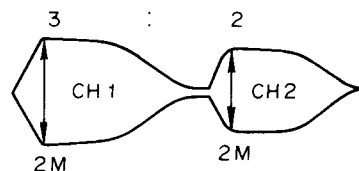

Figure 94.
2. Observe the output of TP-307 on oscilloscope (TP-702, external trigger). Adjust R344 so that the output ratio of channel 1 against channel 2 becomes 3:2. (Fig. 94)